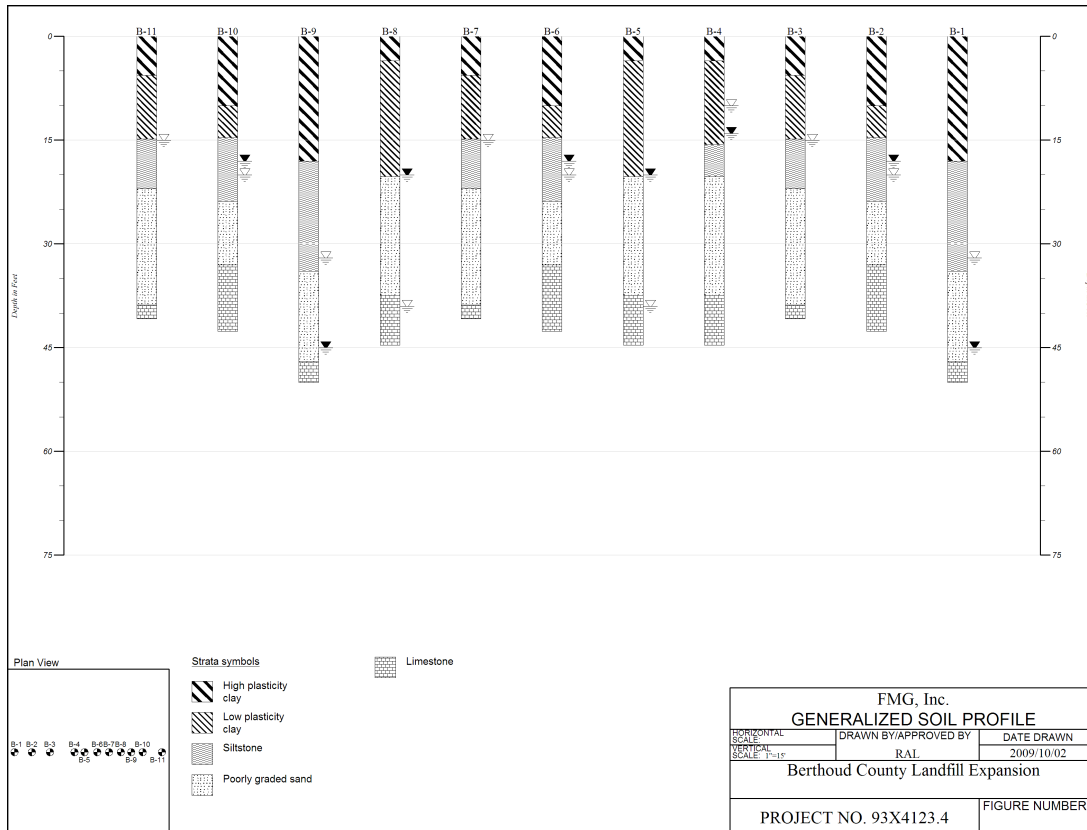

Figure 5.3: Profile with Evenly-Spaced Borings
If you don't have either elevations or plan locations, **LOGDRAFT** produces a profile with borings evenly-spaced horizontally across the page and starting at the same vertical location, as shown in Figure 5.3.
- ⇒ If location information isn't available for the project, clicking on the **No horizontal scaling** check box results in a profile of borings that are evenly spaced horizontally across the page, similar to the example shown in Figure 5.3.